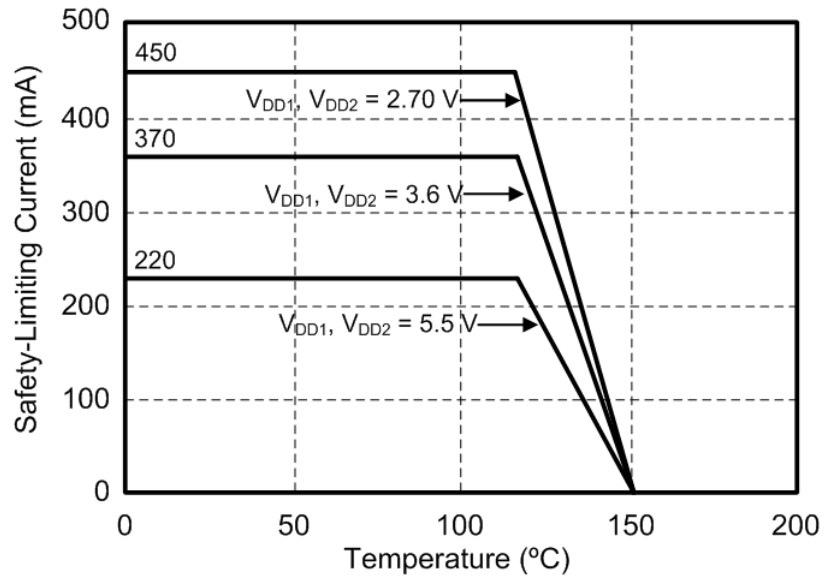

Figure 4.4. (WB SOIC-16) Thermal Derating Curve, Dependence of Safety Limiting Values with Case Temperature per DIN EN 60747-5-5/VDE 0884-10, as Applies
1. Maximum value allowed in the event of a failure; also see the thermal derating curve in [Figure 4.4 \(WB SOIC-16\) Thermal Derating Curve, Dependence of Safety Limiting Values with Case Temperature per DIN EN 60747-5-5/VDE 0884-10, as Applies on page 23](#) and [Figure 4.5 \(NB SOIC-16, QSOP-16\) Thermal Derating Curve, Dependence of Safety Limiting Values with Case Temperature per DIN EN 60747-5-5/VDE 0884-10, as Applies on page 23](#).